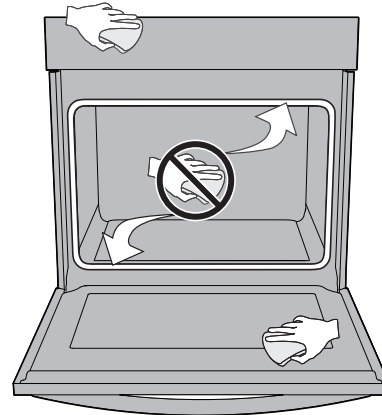

Figure 13: Clean around the oven door gasket
9. Wipe oven cavity and bottom. Do not clean oven door gasket (Figure 13). Avoid leaning or resting on the oven door glass while cleaning cavity.